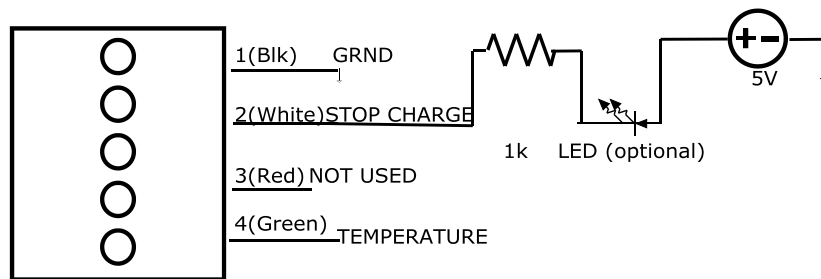

Fig. 4 – Typical connection to the monitor cable. (Users to verify values based on their circuit design)
3. The Overvoltage Alarm Signal (Pin 2) is an open collector output indicating when the voltage management electronics are active. In order to use the signal, the user must connect a pull-up resistor ($\geq 1k\Omega$) between Pin 2 and a nominal 5V (maximum 5.5V) supply. In this configuration, the voltage at Pin 2 will be $\sim 5V$ when the circuit is not active. When a cell in the module goes into an overvoltage condition, the output of Pin 2 goes low. The Overvoltage Alarm can be used as a signal to the system electronics to stop charging in order to protect cells from damage. When an acceptable cell voltage is reached, the output goes high again and can be used as a signal to resume charging. Figure 4 shows a typical connection to use this system.